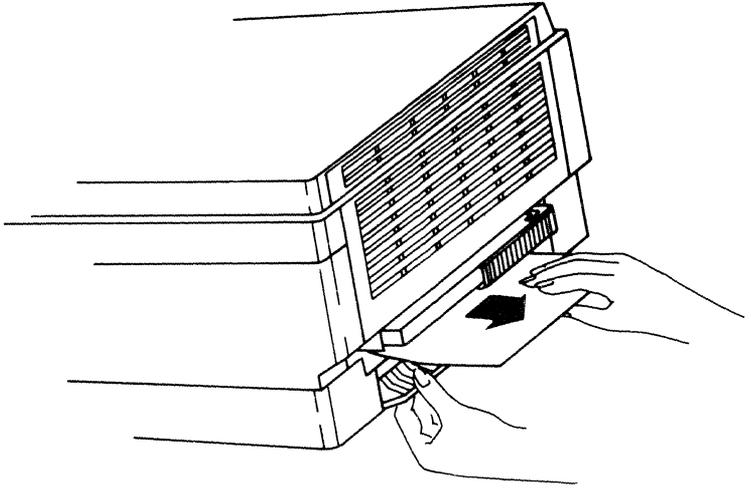

Figure 4: Rear Door
3. Open the rear door (Figure 4) and remove any jammed paper there.